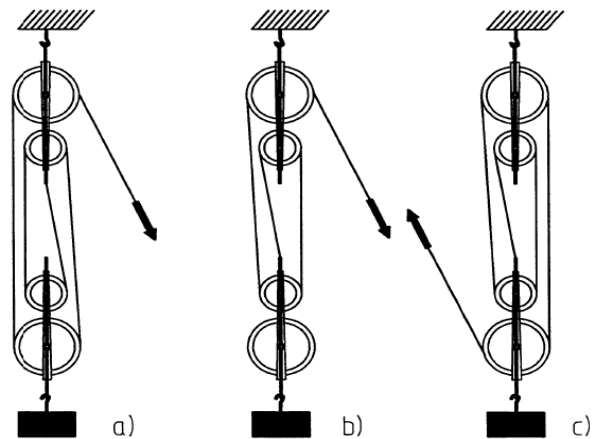

Fig. 2: Experimental setup
- Place the cord for the tackle over the pulleys and set up the experiment as shown in Fig. 2 (length of the cord with two loops approx. 160 cm); Compare  $F_1$  with  $F_2$  (2)
- Mark the position of the weight holder (top point of the hook) and the dynamometer (hook of the pull cord - see Fig. 2) with arrows of different colours.
- Slowly and evenly move the dynamometer towards the bottom right-hand corner of the demo board; measure and record the force. (3)
- Repeatedly lift the dynamometer and perform the lifting work with differently directed forces  $\vec{F}_1$ ; observe the dynamometer and note down the observations. (4)